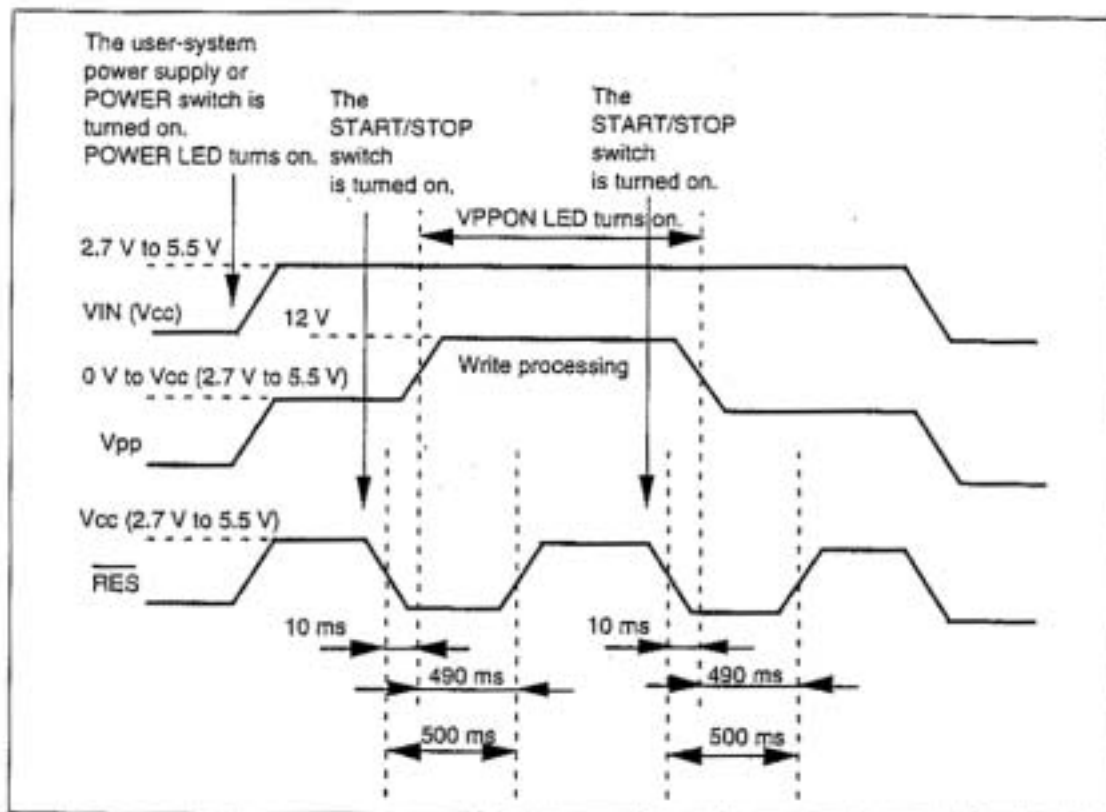

Figure 5.1 Reset Signal, 12-V Application, and Stop Timing
- (1) When the transfer switch is pressed, the  $\overline{\text{RES}}$  signal is held to the low level for 500 ms.
- (2) After 10 ms of the falling edge of the  $\overline{\text{RES}}$  signal, 12-V application to the Vpp and mode pins starts or stops.
- (3) Mode pin: 12 V is applied to the mode 2 pin (MD2) for the H8/538F and H8/3048F, and 12 V is applied to the mode 1 pin (MD1) for the H8/3437F and H8/3337YF. (Refer to figure 5.1, Reset Signal, 12-V Application, and Stop Timing.)